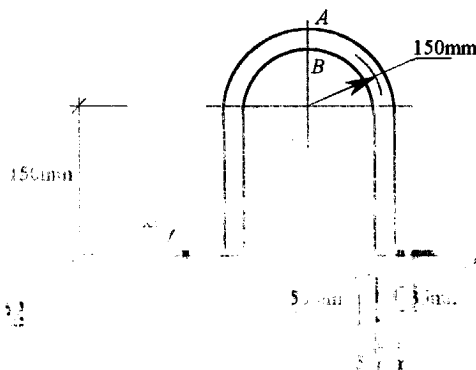

Figure Q2
- Q2.** Find the maximum tensile and compressive stresses at the section *A-B* of the curved bar shown in the Figure Q2 below. [20 marks]